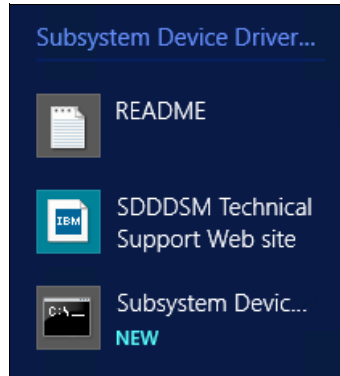

Figure 5-6 Subsystem Device Driver DSM in the all programs menu
3. Search for the section *Subsystem Device Driver DSM* (see Figure 5-6).